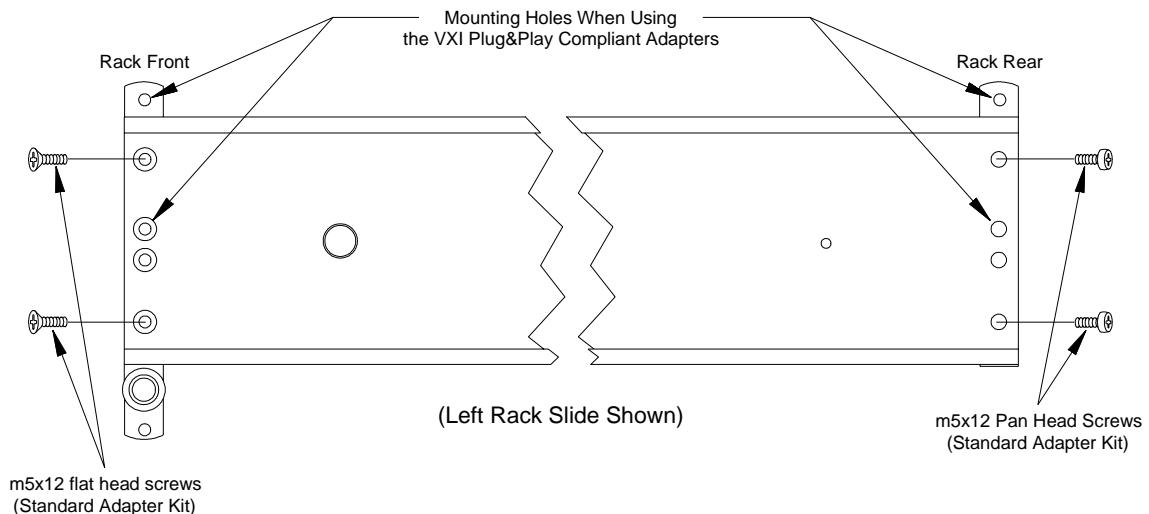

Figure 2-9. Installing the Rack Slide Stationary Sections.
- Attach the stationary section to the rack's front inside rail through the channel nuts. Use two m5x12 flat head screws. Attach the stationary section to the rear inside rail using two m5x12 pan-head screws (Figure 2-9).